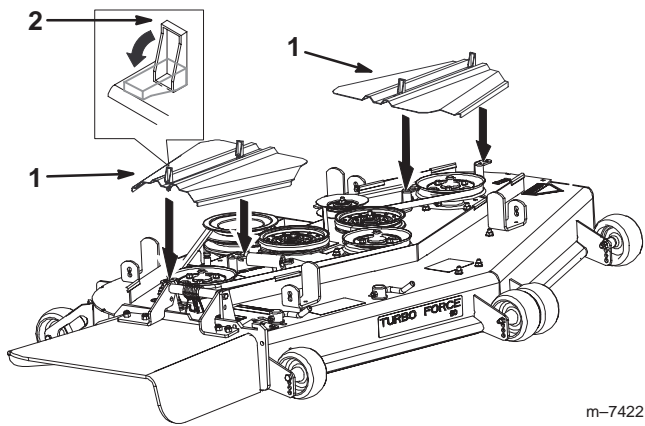

Figure 72
3. Remove the belt covers (Fig. 72).
8. Install the belt covers and close the latches (Fig. 72).